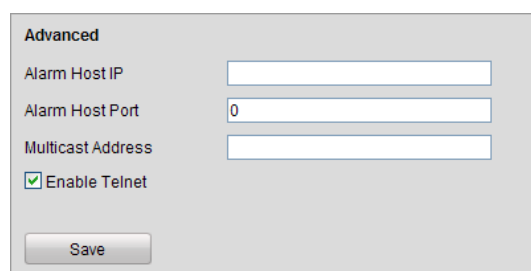

Figure 9. 30 Telnet Settings Interface
1. Enter the Advanced settings interface, as shown in the Figure 9. 30.